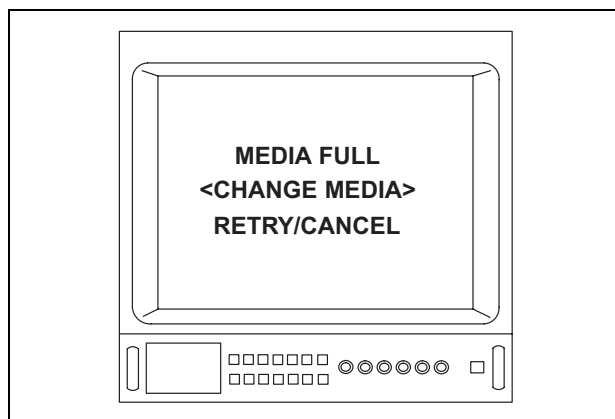

Figure 5.98
- If the amount of free memory on Memory Card is insufficient, the display is as shown on the video monitor in Figure 5.98. In this case, pull out the PC card adapter from this instrument and exchange a Memory Card with an empty card and choose “Retry”. When it is not recorded, please reattach the PC card adapter. Please use so as not to fill the capacity of Memory Card. The image of SmartMedia is recommended to be backed up to PC etc., regularly.